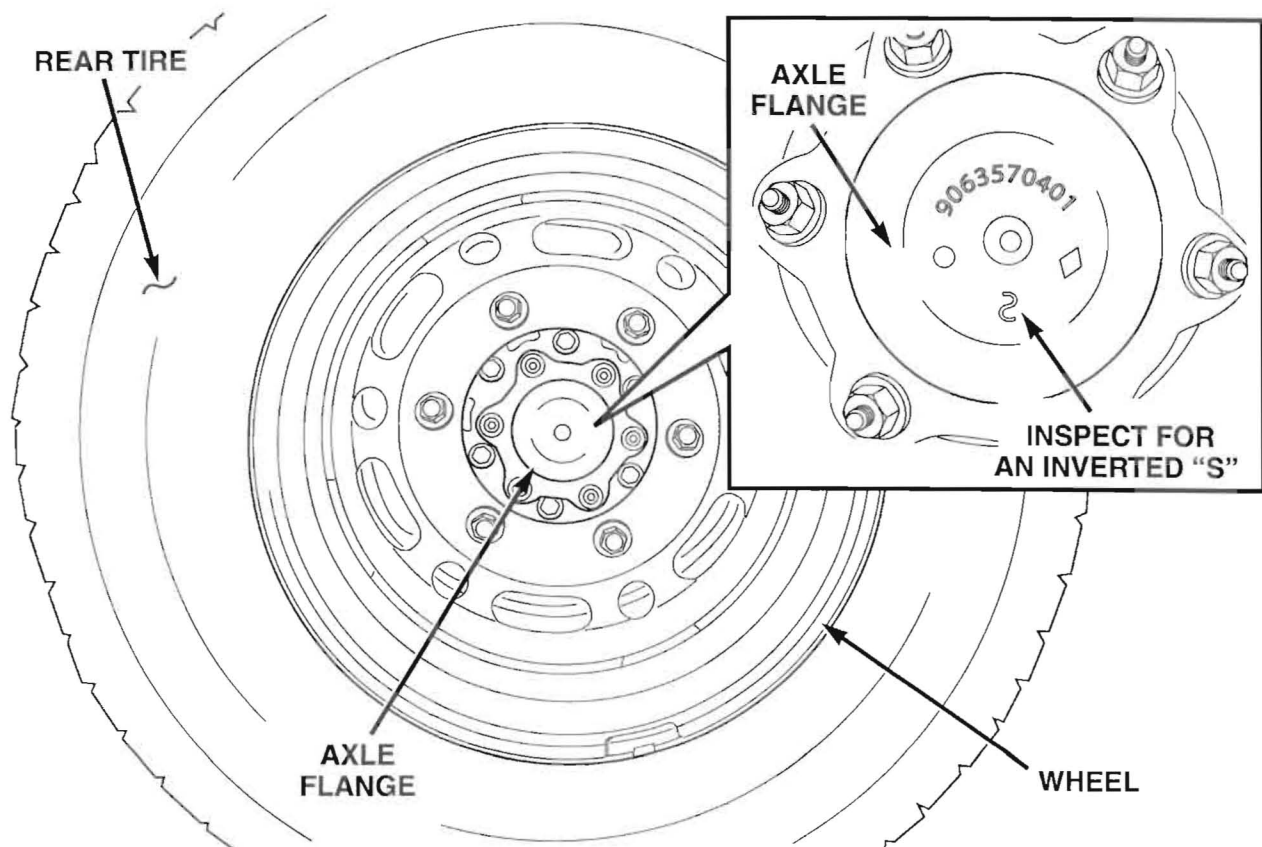

Figure 1
3. Inspect the axle shaft flange for an inverted “S” cast into the axle shaft flange (Figure 1).